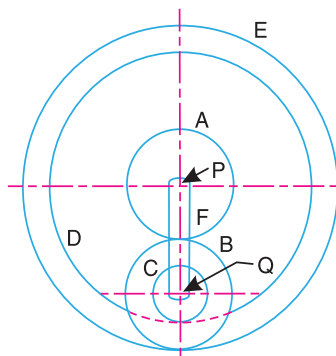

Fig. 13.40
11. A compound epicyclic gear is shown diagrammatically in Fig. 13.40. The gears A , D and E are free to rotate on the axis P . The compound gear B and C rotate together on the axis Q at the end of arm F . All the gears have equal pitch. The number of external teeth on the gears A , B and C are 18, 45 and 21 respectively. The gears D and E are annular gears. The gear A rotates at 100 r.p.m. in the anticlockwise direction and the gear D rotates at 450 r.p.m. clockwise. Find the speed and direction of the arm and the gear E .